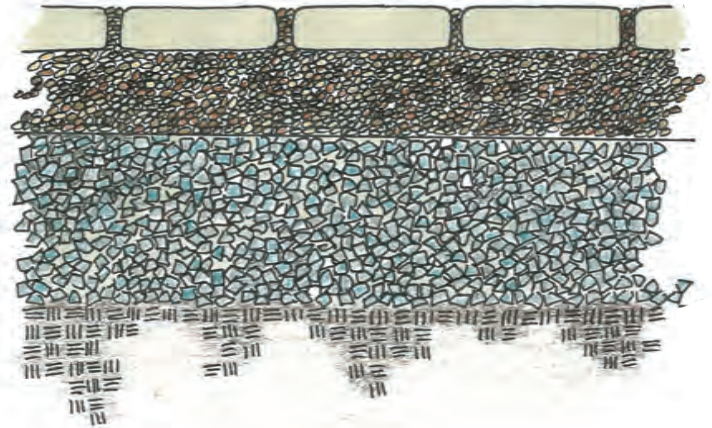

Figure 1. Pervious walkway profile.
- b. Sub-base materials (Figure 1) are the gravel and pea stone layers that go under the pavers. These materials provides a reservoir for stormwater before it soaks into the ground underneath. You should have a minimum depth of 12" of 1½" diameter crushed stone and 6" of ¾" pea stone for your sub-base. Use the following equations to determine the amount of sub-base materials you will need (multiplying by 0.037 converts cubic feet to cubic yards):